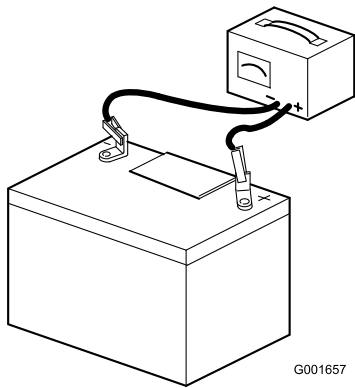

Figure 31
2. Connect a 3 to 4 amp battery charger to the battery posts (Figure 31). Charge the battery at a rate of 3 to 4 amperes for 4 to 8 hours.